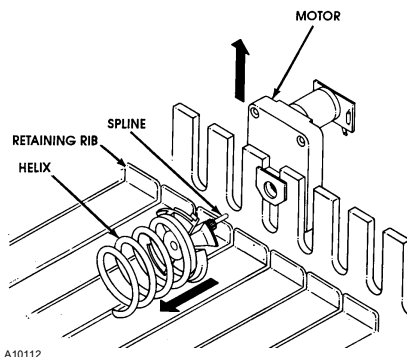

Figure 9. Auger Motor assembly
3. Raise the motor slightly and pull forward on the auger until it separates from the motor. See Figure 9.